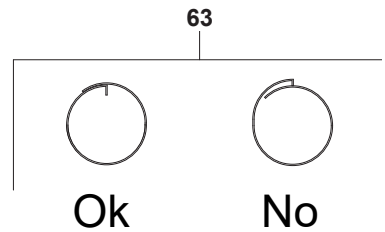

Fig. 9.01
9.1.02) Clean the cartridge pos.63 thoroughly, make sure there is no breakage, and fit back in place (pay attention as shown in fig.9.01)